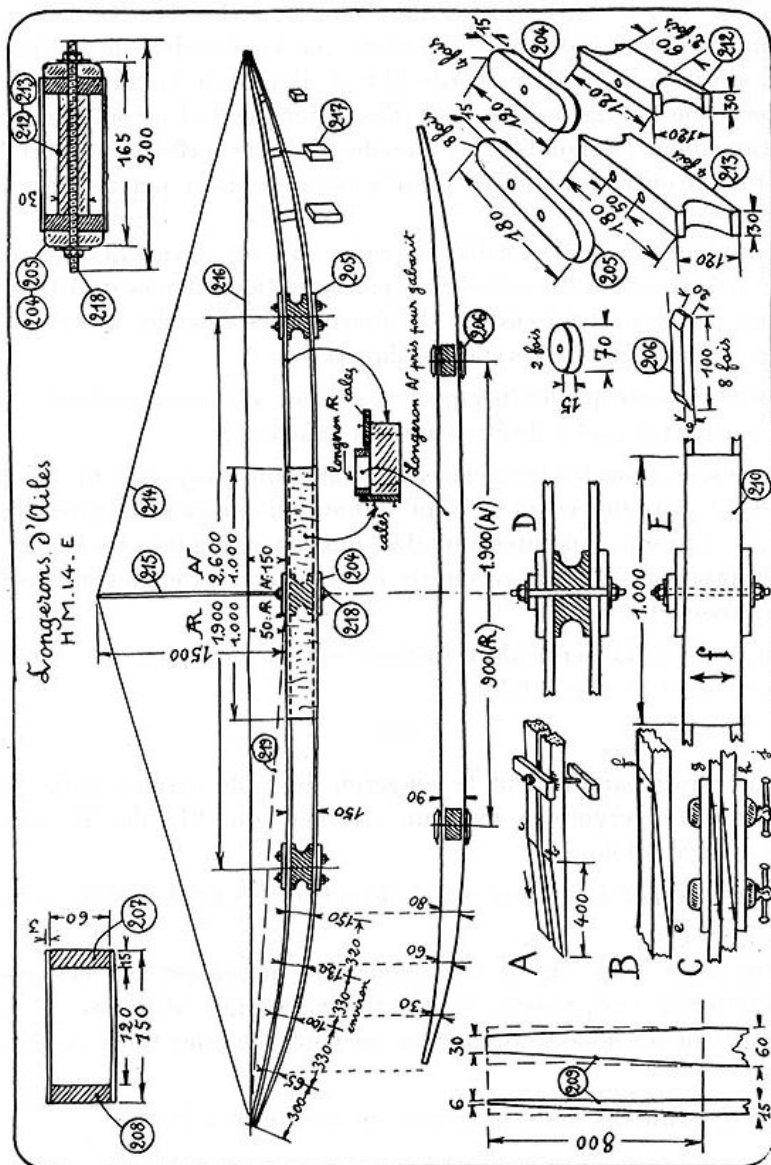

Figure 4.2: The spars
The spar (*fig. 4.2*) consists of two 15×60 caps (207), (208), curved to meet at the tips and held in shape by two vertical-grain plywood webs (210). The spar is 150mm deep.
Glue and tighten by their threaded rods the plates (205), (206) (*fig. 4.2*). These plates are level with the ribs above and below the wing. Glued parallel to the inner blocks (213), these reinforce the spar caps, which are pierced through here by the threaded rods. The wood of these plates must be excellent quality with perfectly straight grain.